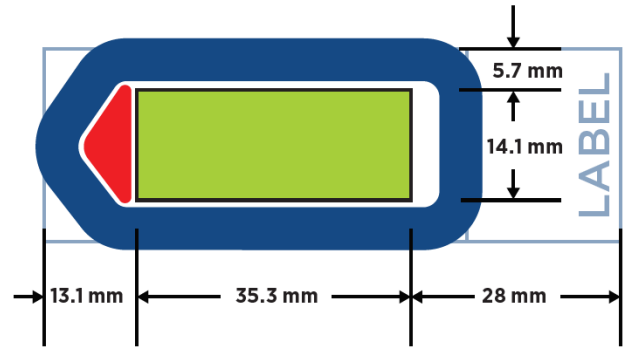

Figure 11: Slide dimensions. Measure from label edge of slide as reference point.
- Tissue sections must be placed in the **Scan Area** (shown in green in Figure 11) in the center of the slide and be **no larger than 35.3 mm long by 14.1 mm wide**. They should not overlap the slide gasket (shown in blue) or the tip calibration area (shown in red). If mounting multiple sections per slide, ensure that tissues are at least 2–3 mm apart and still fit within the Scan Area.